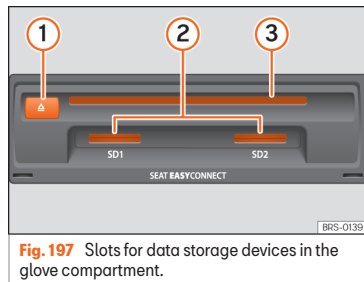

Fig. 197 Slots for data storage devices in the glove compartment.
- Push the CD into the slot »» Fig. 197 ③ to the point where it is drawn in automatically.
Insert the compatible memory card, bevelled edge first and with the label face up (contacts face down), into slot »» Fig. 197 ②, until properly inserted.